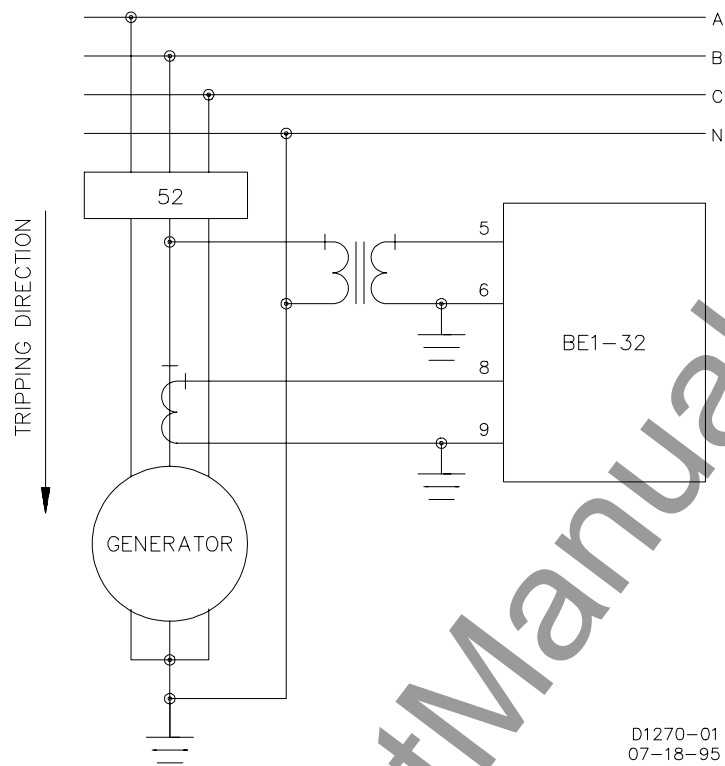

Figure 4-24. Type A Sensing
- Sensing input connections are shown in Figures 4-24 through 4-29.